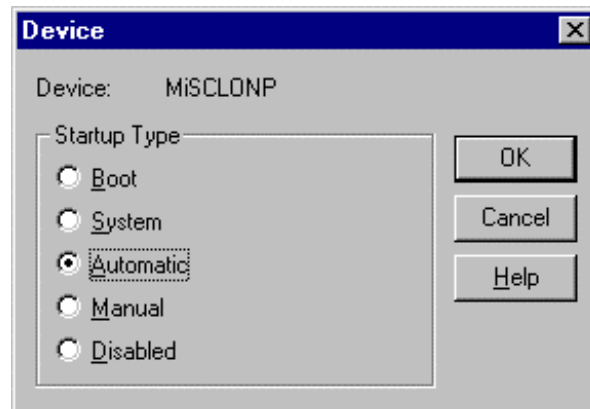

Figure 16. MiSCLONP device start-up settings
- Click the button labelled Startup to enter the Device dialog shown in Figure 16 and select the option titled Automatic.